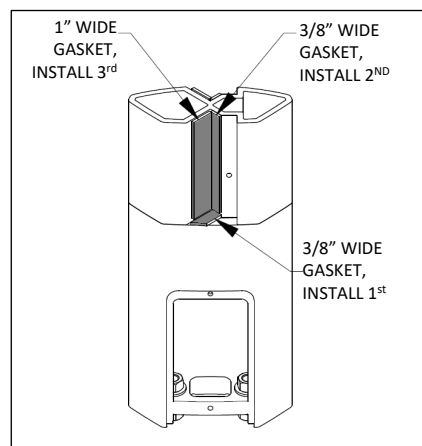

Fig. F5 – Gasket install on verticals
3. Install gaskets in verticals at locations that require glass panels. See Fig. F5 for orientation of gaskets. Remove paper backing to expose adhesive before attaching to vertical.